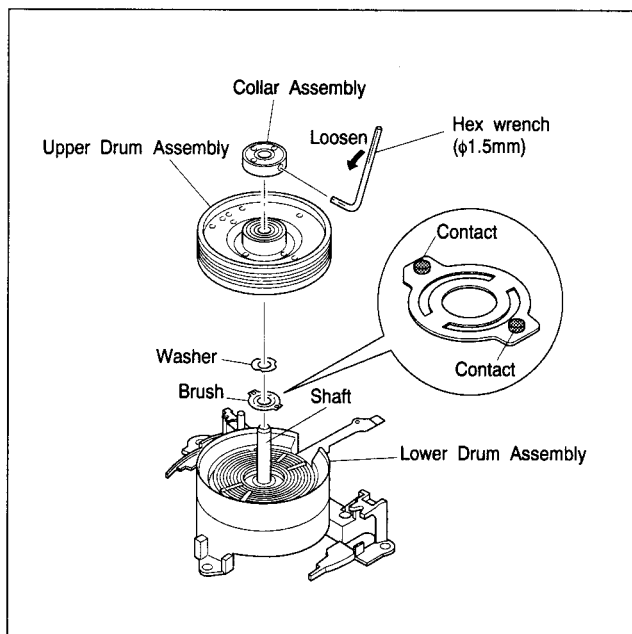

Fig. 2-5-25
- (1) Use an air brush to clean the lower drum assembly and the coil section of the new upper drum assembly.
- (2) Set a new washer on the drum shaft as indicated in Fig.2-5-25.
- (3) Note the top and bottom of the collar assembly and determine the position as indicated in Fig.2-5-25.